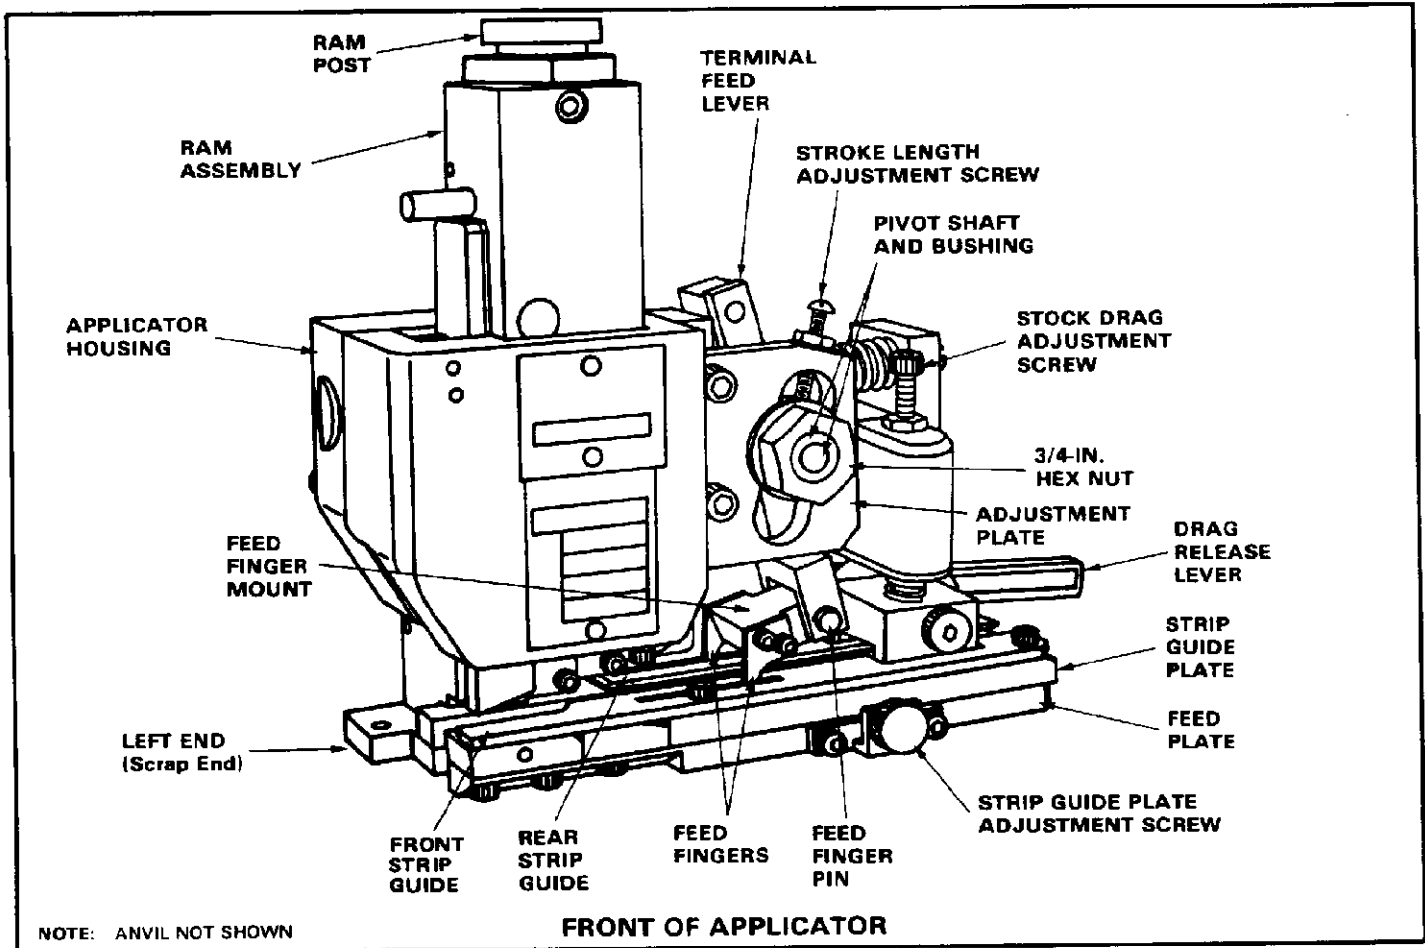

Fig. 1
4.2. Feed Finger Alignment (Figure 1)
4.4. Feed Finger Stroke Length Adjustment (Figure 1)**NOTE**
4.7. Stock Drag Adjustment (Figure 1)